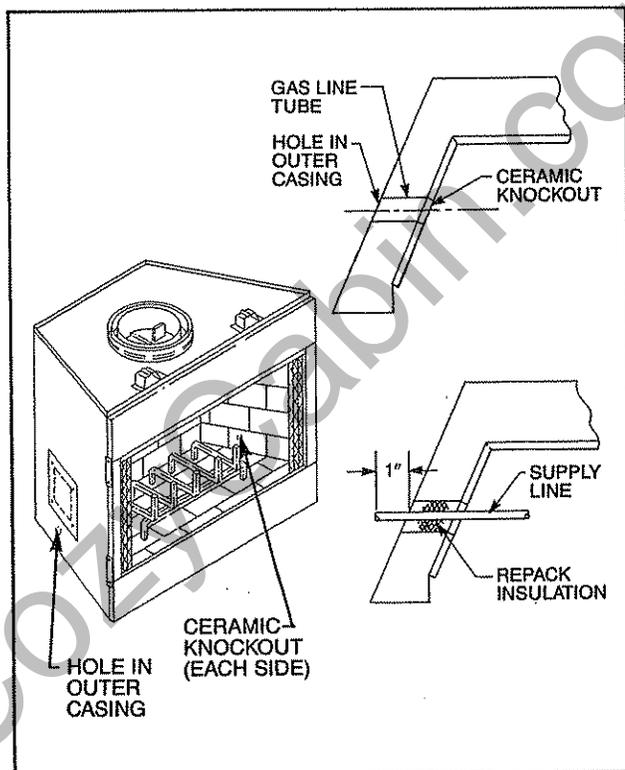

Fig. 26. Install iron pipe gas line through hole provided in either side of the fireplace.
Locate the gas line hole in the outer casing of the fireplace and remove the insulation from the gas line tube. (Refer to Fig. 26.)
NOTE: The gas pipe should not come in contact with any wood structures until it has reached a point at least one (1) inch away from the fireplace side. (See Fig. 26 for installation clarification.)